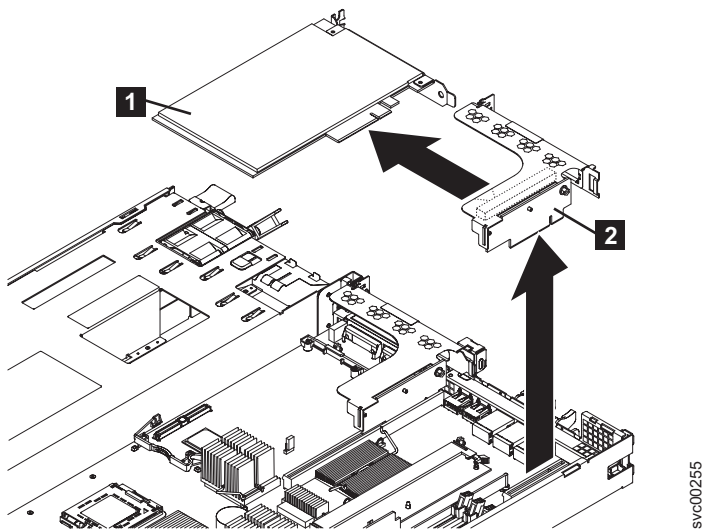

Figure 173. Removing the riser-card assembly from the SAN Volume Controller 2145-8G4
6. Grasp the riser-card assembly (**2** in Figure 173) at the rear edge and lift to remove the riser-card assembly.